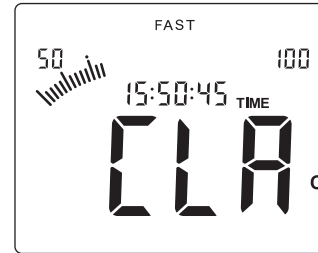

Figure 17
- Press down the **▲** key until the LCD screen displays the symbol CLR, then all recorded data will be deleted, LCD displays as in figure 17: